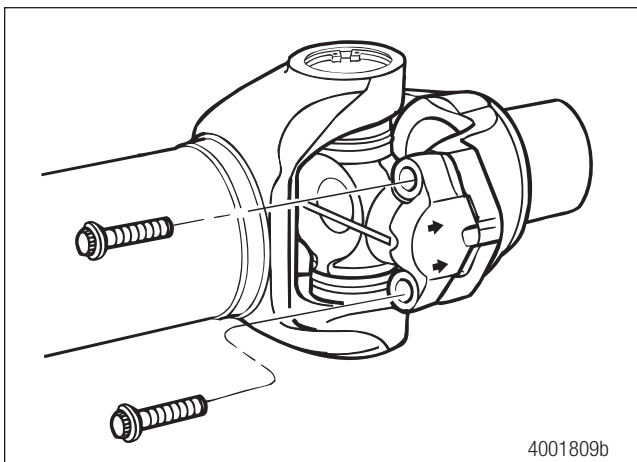

Figure 5.26
3. Remove the capscrews. Figure 5.26.